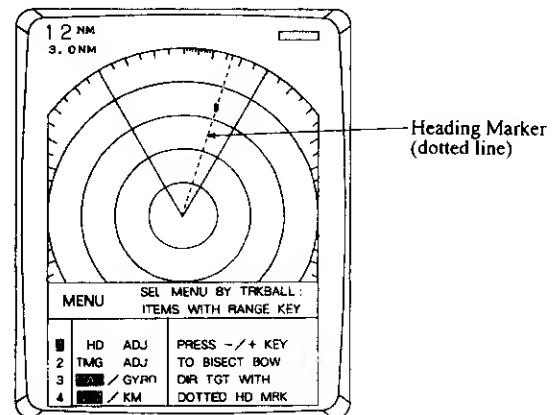

Figure 6-20
12. Press a **RANGE** touchpad to bisect the target with the heading marker. See Figure 6-20.